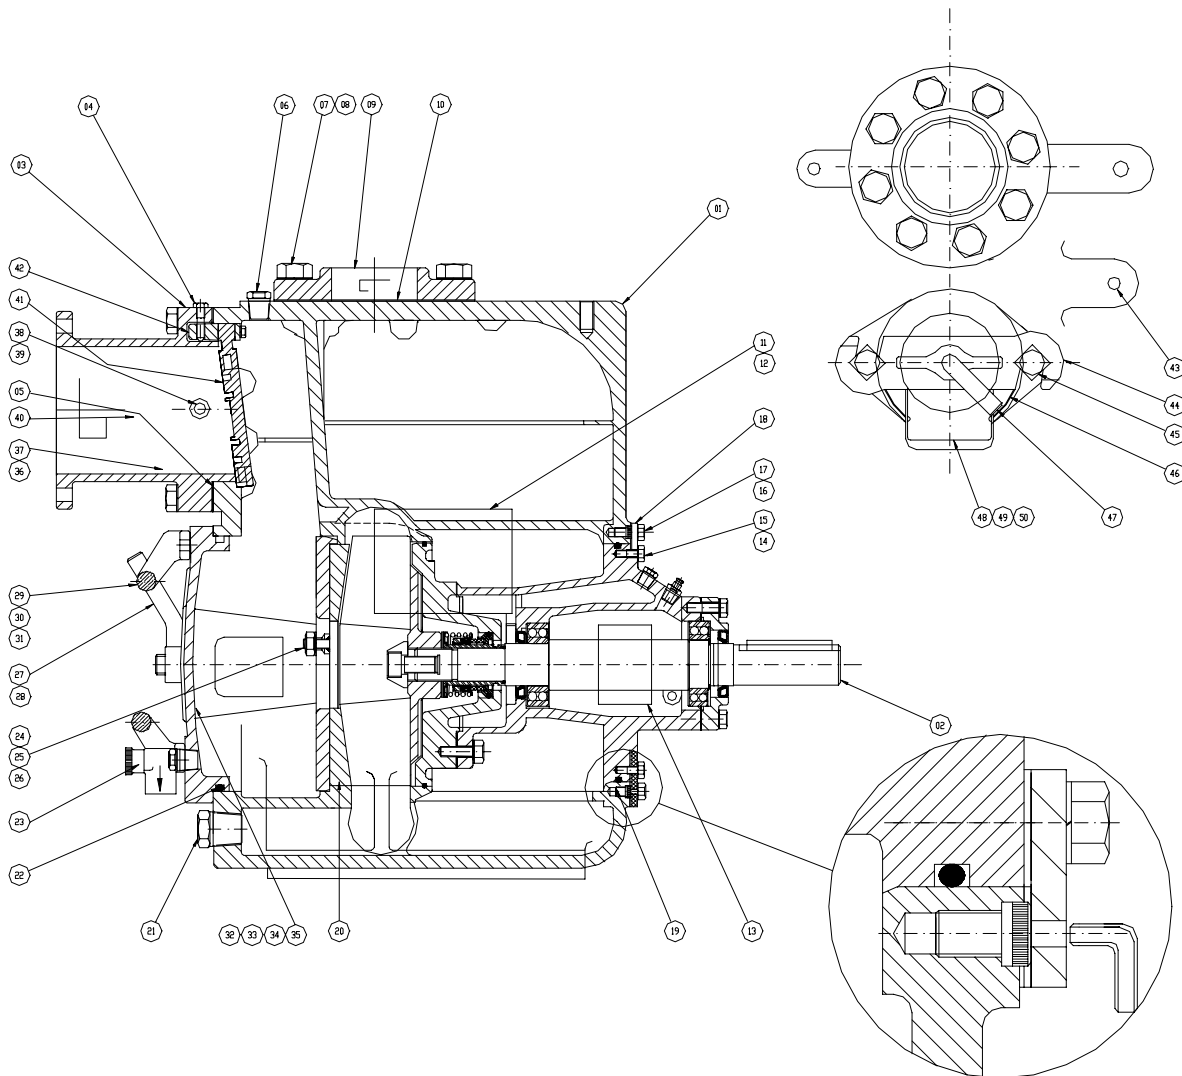

Figure 1. Pump Model
This pump requires little service due to its rugged, minimum-maintenance design. However, if it becomes necessary to inspect or replace the wearing parts, follow these instructions which are keyed to the sectional views (see Figures 1 and 2) and the accompanying parts lists.
#### (Figure 1)
**(Figure 1)**